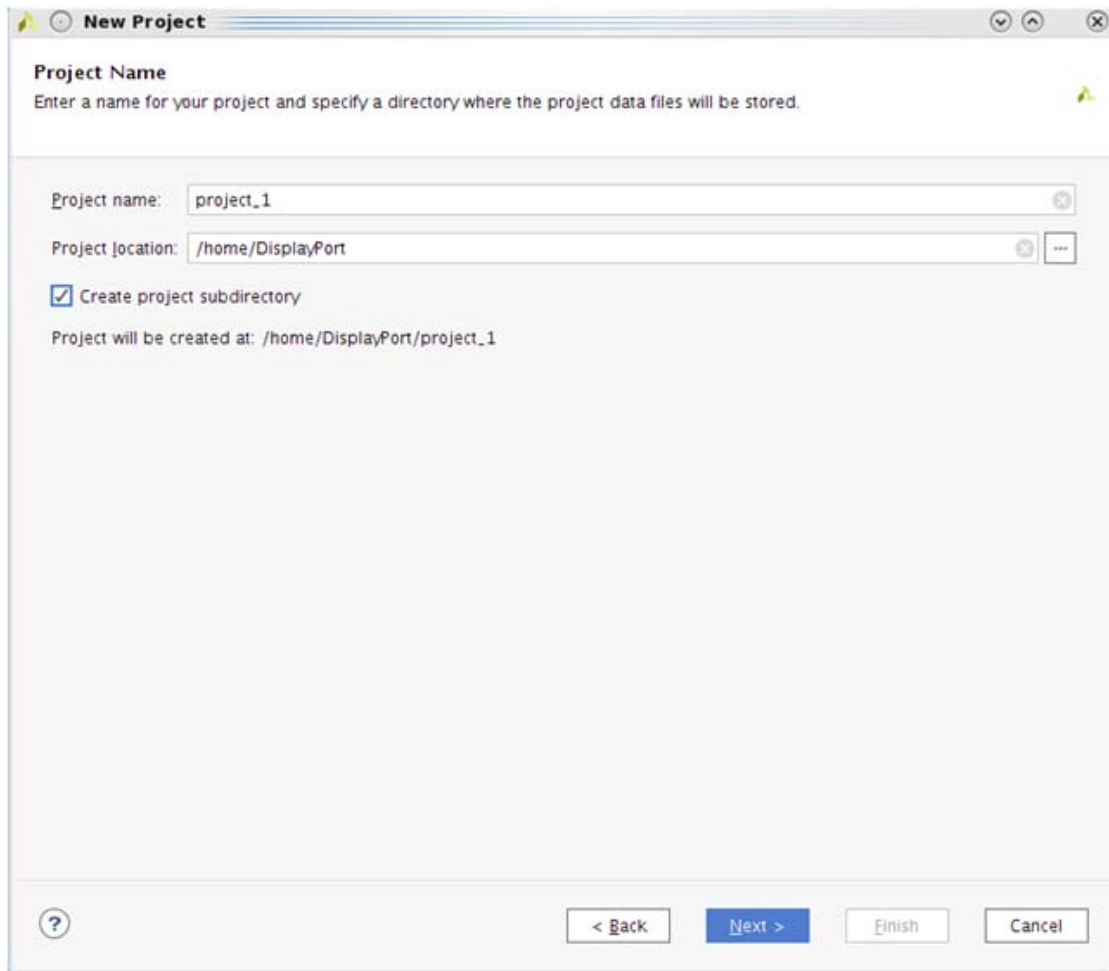

Figure 5-2: New Project
2. In the **New Project** window (Figure 5-2), enter a **Project name**, **Project location**, and click **Next** up to the Board/Part selection window.